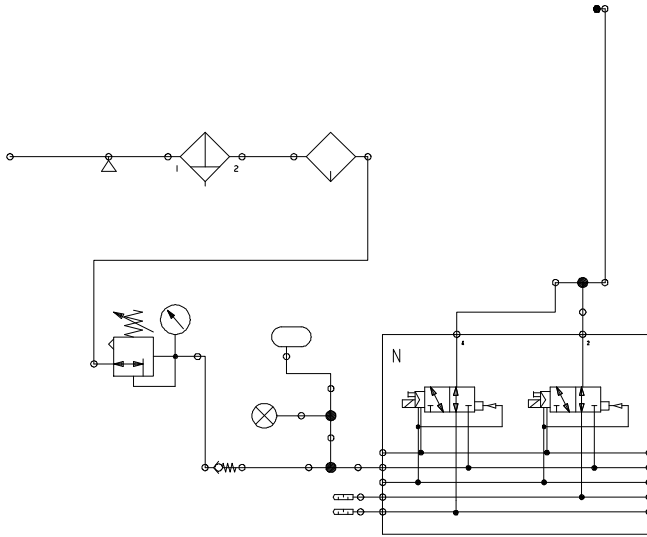

Figure 12
- 2.10.1 Refer to Figure 12 for a typical air system schematic.